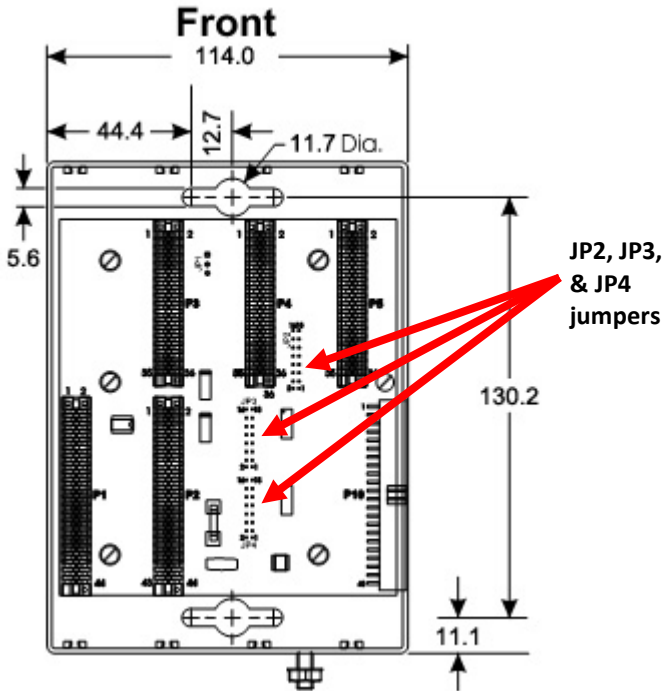

Figure 2. ControlWave Micro 4-Slot Base Housing Dimensions (in millimeters)
- **Base housing.** Position as desired on the enclosure mounting plate and locate mounting holes on the plate using the ControlWave Micro as a template. See Figure 2 for dimensions. Drill and tap mounting holes in the plate. Position the ControlWave Micro over the tapped locations and attach to the plate with four screws (not provided). Torque the screws to approximately 1.1 to 1.4 N-m.
Note: If you are attaching an expansion housing to a 4-slot or 8-slot base housing, remove the three bus terminators (JP2, JP3, and JP4, shown on *Figure 2*) from the backplane of the 4-slot or 8-slot base housing.
Base housings have a ground lug (see *Figure 2*) that accommodates up to 5.19 mm (4 AWG) wire size. After you install the base and any expansion housings and **before** you install any modules in the base or expansion housings, you **must** run a ground wire between the base housing ground lug and a known good earth ground. All earth grounds must have an earth-to-ground rod or grid impedance of 2.0 ohms or less, as measured with a ground system tester. The grounding conductor should have a resistance of 1 ohm or less between the ControlWave Micro’s enclosure ground and the earth ground rod or grid.